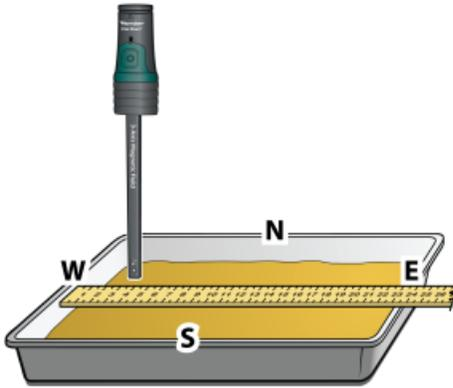

Figure 3
- b. Position the ruler so that it is lined up with the East and West marks on the sides of the pan. Align the 0 cm mark with the left edge of the pan as shown in Figure 3.